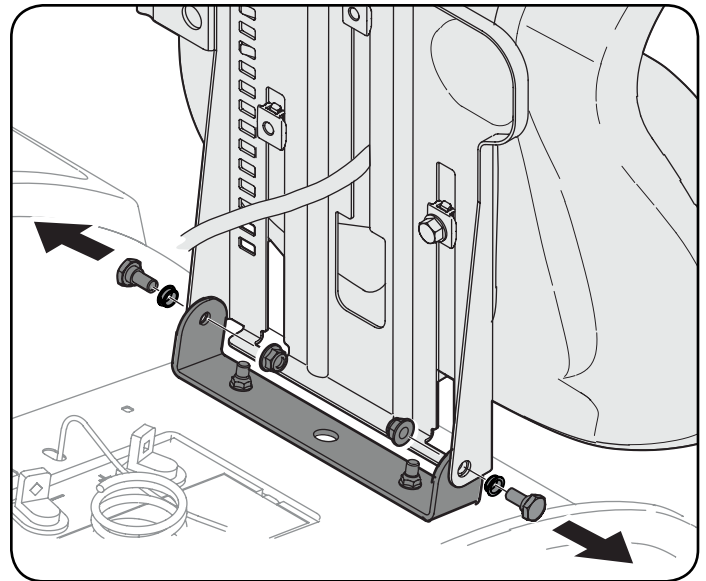

Figure 2
2. Remove the two shoulder screws and flange lock nuts in the seat pan as shown in "Figure 2".